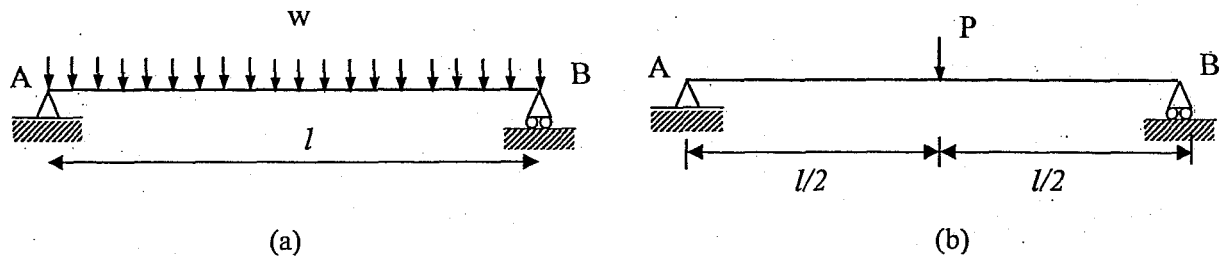

Figure 1: Simply supported beam with: (a) a uniformly distributed load; (b) central point load
(ii) Consider following simply supported beam as shown in Figure 1(a). Flexural rigidity is  $EI$ .
b) Determine the collapse load ( $w_{ult}$ ) of the beam [Figure 1(a)] using the virtual work approach. You can consider that plastic moment as  $M_p$ . (4 Marks)
c) If the uniformly distributed load is removed and a point load ( $P$ ) is applied as shown in Figure 1(b), determine the collapse load ( $P_{ult}$ ) using the virtual work approach. (4 Marks)